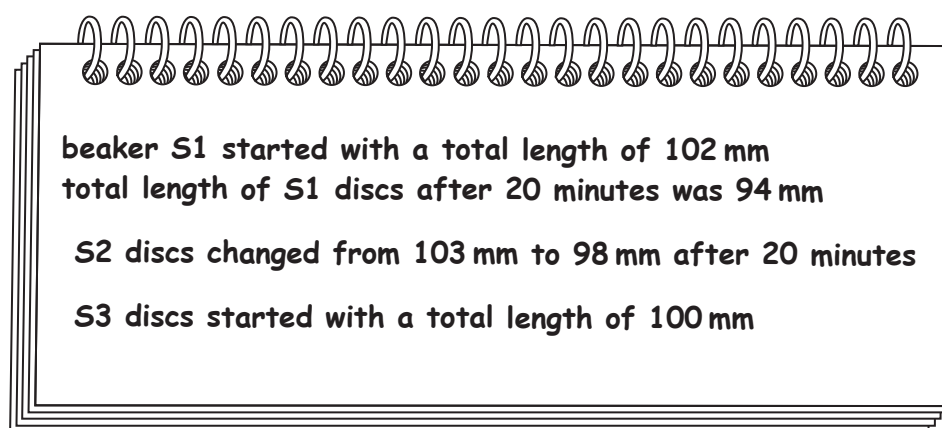

Fig. 1.3
Fig. 1.3 shows the notes the student recorded about the results.
- (iii) Prepare a table and record the results shown in Fig. 1.3 and your measurement in 1(a)(ii).